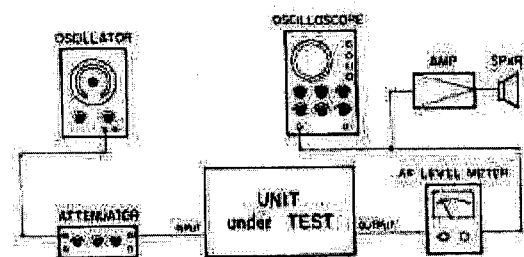

Fig. 9-5-9: Level or Frequency Response Measurement Set-up
1. Connect the test equipment to CH1 INPUT and CH1 OUTPUT as shown in Fig. 9-5-9.